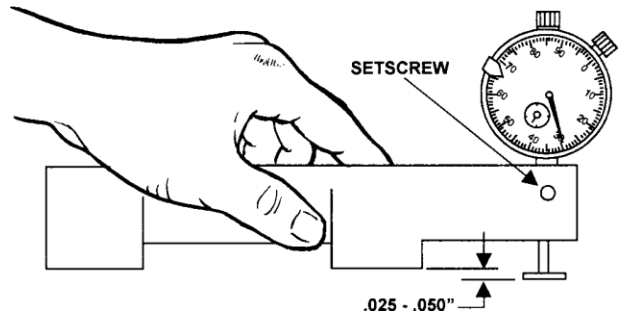

Fig. 15
10. Lift the gauge off the outfeed table to see how far below the bottom of the gauge the indicator travels. The indicator should read between .025 and .050 as shown in Figure 15.